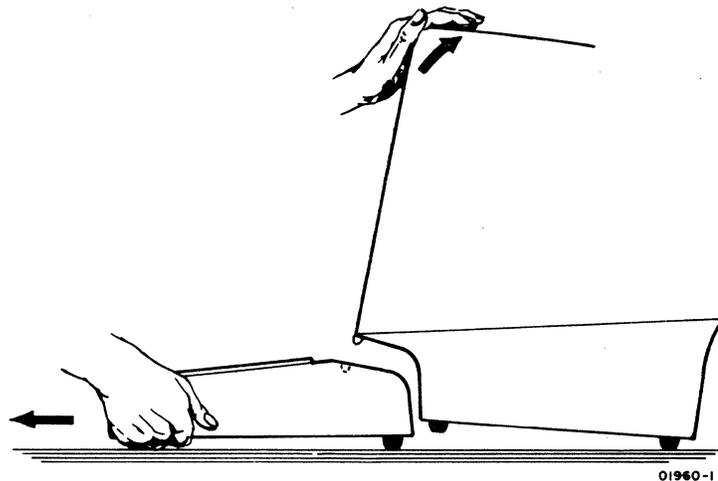

Figure 2-9. Removing the Detachable Keyboard
- 4) If desired, detach the keyboard from the terminal and position it for comfortable operation. Refer to figure 2-9 for the correct method of detaching the keyboard.